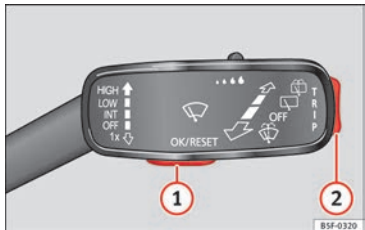
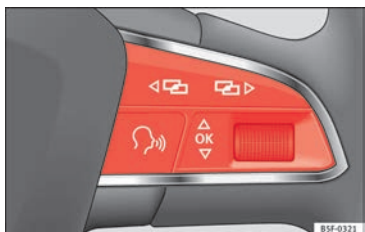

Fig. 42 Windscreen wiper lever: control buttons.
Fig. 43 Right side of multifunction steering wheel: control buttons.
The driver information system is controlled with the multifunction steering wheel buttons **» Fig. 43** or with the windscreen wiper lever **» Fig. 42** (if the vehicle is not equipped with multifunction steering wheel).
- If a message or vehicle pictogram appears, press button » Fig. 42 ① on the windscreen wiper lever or button **OK** on the multifunction steering wheel » Fig. 43.
- If managed from the windscreen wiper lever: to display the main screen » page 31 or to return to the main menu from another menu hold down the rocker button » Fig. 42 ②.
- If managed from the multifunction steering wheel: the main menu list is not displayed. To go from point to point in the main menu, press button **<** or **>** several times » Fig. 43.
- Press the rocker switch » Fig. 42 ② on the windscreen wiper lever up or down or turn the thumbwheel of the multifunction steering wheel » Fig. 43 until the desired option appears marked on the menu.
- To consult the submenu option, press button » Fig. 42 ① on the windscreen wiper lever or button **OK** on the multifunction steering wheel » Fig. 43.
- Mark or confirm the selection with button » Fig. 42 ① on the windscreen wiper lever or button **OK** on the multifunction steering wheel » Fig. 43.
- *In vehicles without multifunction steering wheel:* Press the rocker switch **TRIP** on the windscreen wiper lever » **Fig. 42**.
- *Vehicles with a multifunction steering wheel:* turn the thumbwheel » **Fig. 43**.